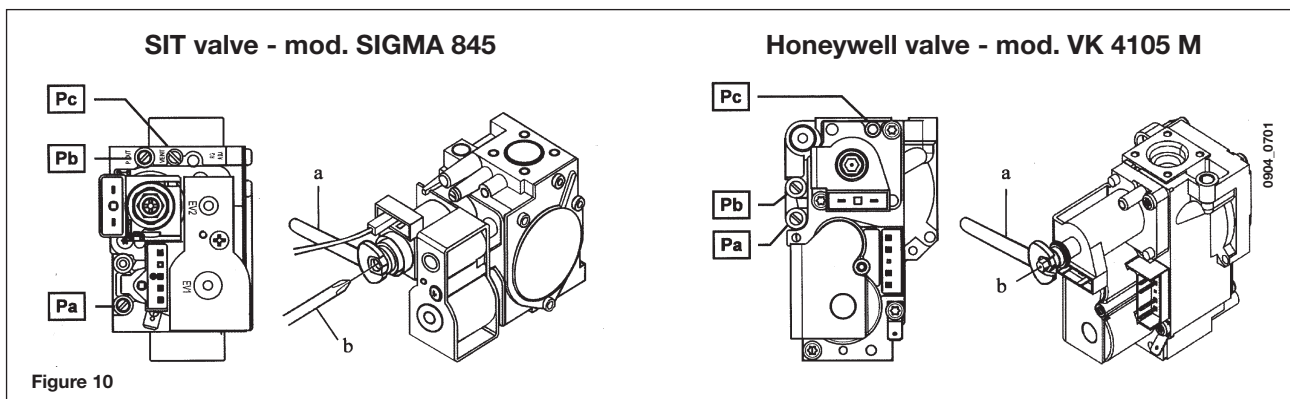

Figure 10
The procedure for calibrating the pressure regulator varies slightly according to the type of gas valve fitted (HONEYWELL or SIT, see figure 10).
- connect the positive pressure test point of a differential pressure gauge (possibly water-operated) to the gas valve pressure test point (**Pb**) (Figure 10). Only for models with sealed chambers, connect the negative pressure test point of the pressure gauge to a "T" fitting in order to join the boiler adjustment outlet, the gas valve adjustment outlet (**Pc**) and the pressure gauge. (The same measurement can be made by connecting the pressure gauge to the pressure test point (**Pb**) after removing the front panel of the sealed chamber). Measuring burner pressure using methods other than those described could lead to incorrect results as the low pressure created by the fan in the sealed chamber would not be taken into account.
- make sure that the dynamic inlet pressure of the boiler, measured at the gas valve pressure test point (Pa) (Figure 10) is correct (37 mbar for propane or 20 mbar for natural gas).